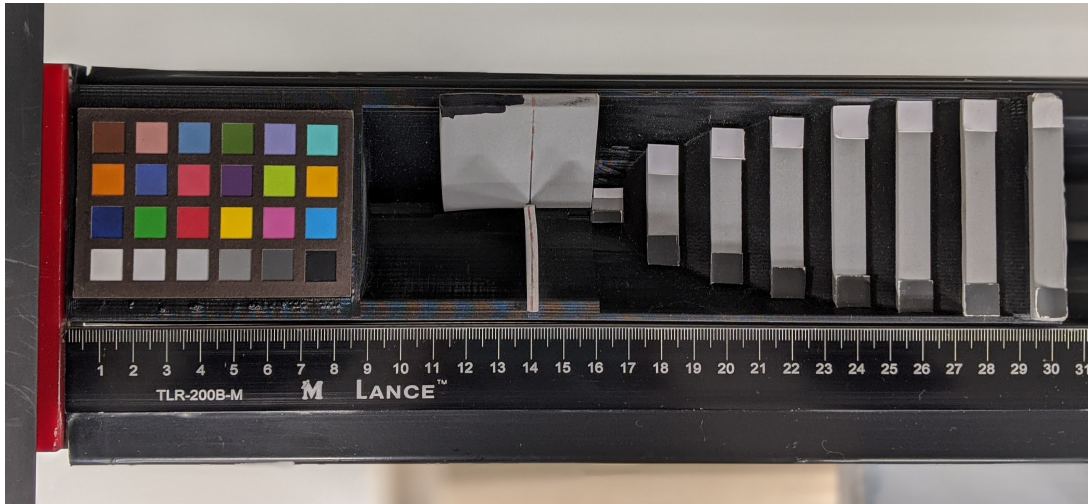

Figure 38: Color standard in track in correct orientation.
1. Put the 3D Calibration Standard in the track. The color square must be oriented as pictured Figure 38.